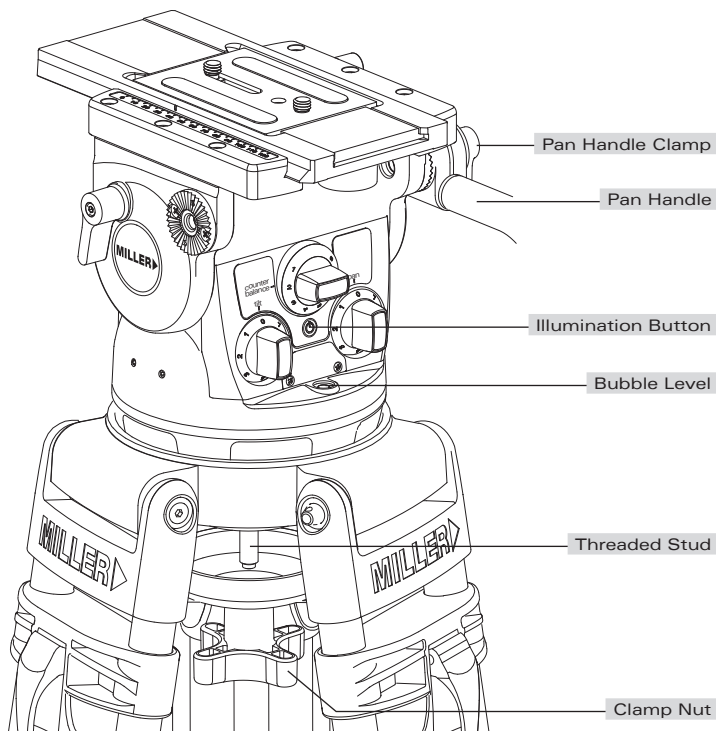

Fig. 4
- 1.1 Loosen the PAN HANDLE CLAMP fully then rotate the PAN HANDLE until it is approximately perpendicular to the THREADED STUD (fig. 4) and tighten the PAN HANDLE CLAMP - avoid contact wear between the serrations on the Fluid Head and the PAN HANDLE CLAMP, if this occurs then unwind the PAN HANDLE CLAMP further.
- 1.2 Ensure that the TRIPOD BOWL is approximately horizontal. Place the Fluid Head into the TRIPOD BOWL, adjust the BUBBLE LEVEL (fig. 4) such that the bubble is inside the black circle and tighten the CLAMP NUT.